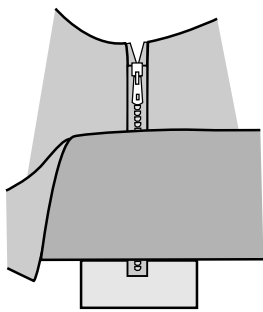

Figure 22
7. Fold outer garment piece back to expose seam. (Figure 22) On the inside, stitch across the triangle at the bottom, pivot, and stitch up side just inside previous stitching.